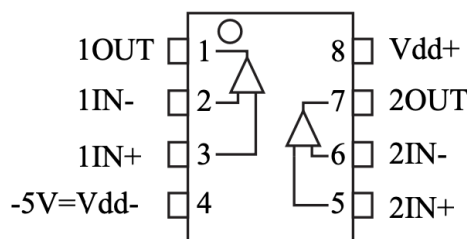

Figure 5.4: Pinout for TI's TLV272. Note that two op amps are contained, often called a dual op amp, within a single chip.
A pinout is a connection diagram for an integrated circuit, showing how its pins connect to the internal op amp terminals. It should not be confused with the pins in a spice simulation. Op amps typically have a standardized pinout, allowing chips to be easily swapped out. Figure 5.4 shows the pinout for the TLV272 with the op amp diagram drawn within.
3. Familiarize yourself with the TLV272 datasheet. Make note that pin 4 should be connected to -5 V, NOT ground. It is also recommended to use the schematic in Figure 5.4